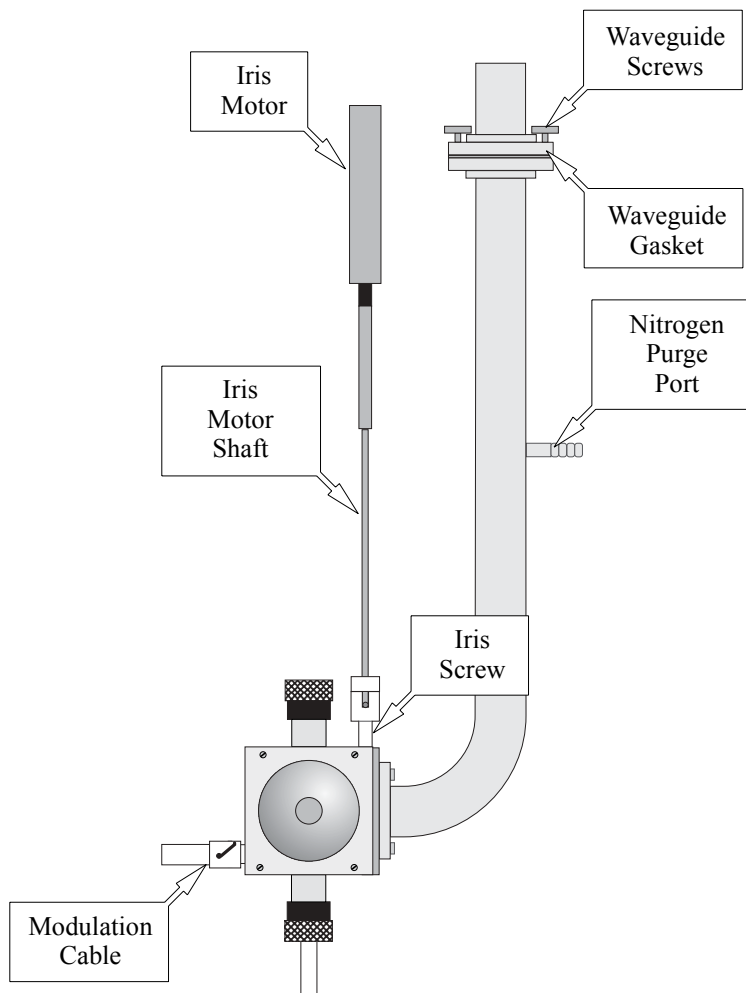
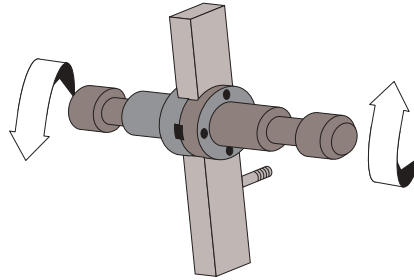
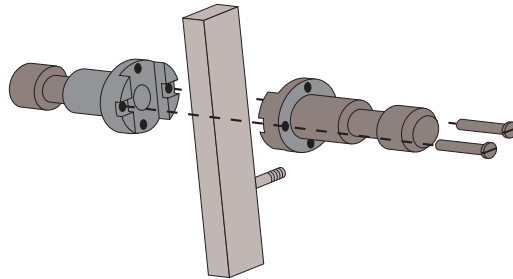

Figure 7-11 Connections on the ER 4122SHQ cavity.
Figure 7-13 Loosening the waveguide stabilizers.
Figure 7-14 Removing/Installing the waveguide stabilizers.
9. **Disconnect the modulation cable from the cavity.** This is the twin-ax cable labeled with a white connector and attached to the front of the standard cavity. To remove it, push the connector in, turn counter-clockwise and gently pull the cable away. (See Figure 7-11.)
11. **Disconnect the nitrogen purge line from the port on the waveguide.** The port is half way down the waveguide attached to the cavity. (See Figure 7-11.)
13. **Disconnect the cavity.** While grasping the waveguide attached to the cavity with one hand, unscrew the four waveguide screws joining the two sections of waveguide. (See Figure 7-11.) Loosen the waveguide stabilizers by rotating the screws and carefully remove the cavity from the air gap of the magnet. (See Figure 7-13.) Take care not to lose the gasket which was between the two waveguide flanges. Remove the waveguide stabilizers. (See Figure 7-14.) Seal the cavity with the solid collets and put the cavity in a safe clean place.
14. **Install the waveguide stabilizers on the new cavity.** (See Figure 7-14.) Visually position them just above the magnet pole caps.
17. **Connect the modulation cable to the cavity.** (See Figure 7-11.)